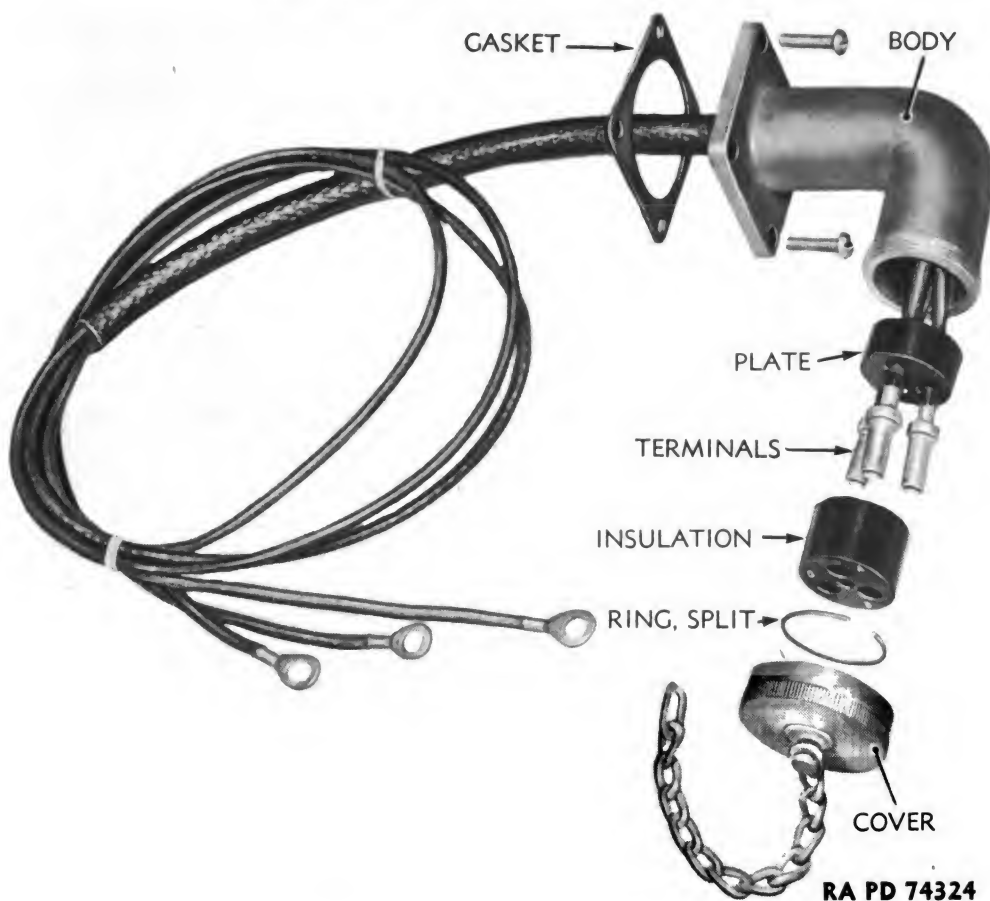

Figure 170 — 30-ampere Power Receptacle
(1) Carry leads through hole in housing side panel, hold receptacle in position, secure with stove bolts and nuts. Under the lower left-hand bolt head, install the end link of the cap chain.
(2) Bring wires through iron collar back of receptacles, to fuse panel. Lead marked "A" goes to the right-hand stud. "B" lead attaches to the center stud. "C" lead attaches to the left stud. Secure leads with nuts.
89. 30-AMPERE POWER RECEPTACLE (fig. 170).